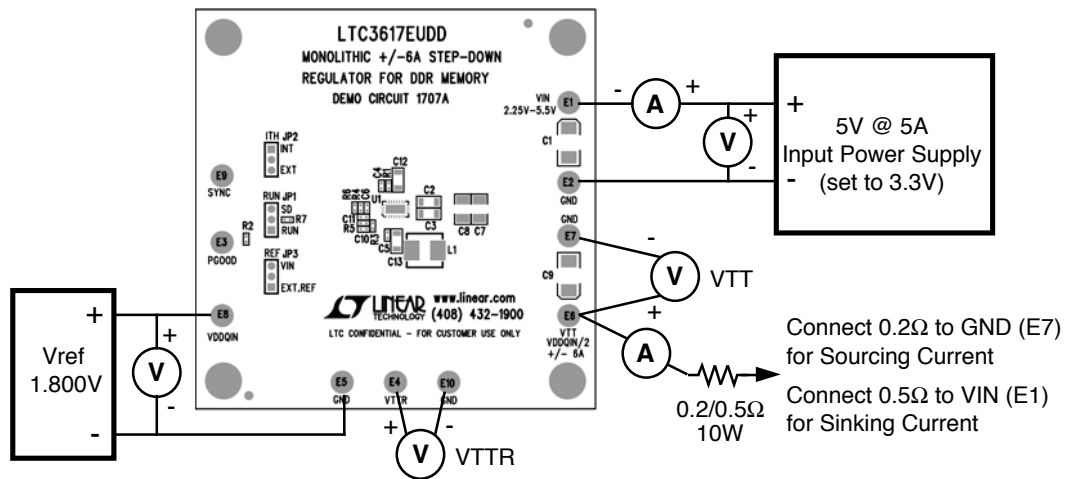

Figure 1. Proper Measurement Equipment Setup
Demonstration circuit 1707 allows the user to quickly evaluate the performance of the LTC3617. Refer to Figure 1 for proper measurement equipment setup and follow the procedure below
2. With both power supplies turned down and switched off, connect the supplies and digital voltmeters and ammeters as shown in Figure 1.